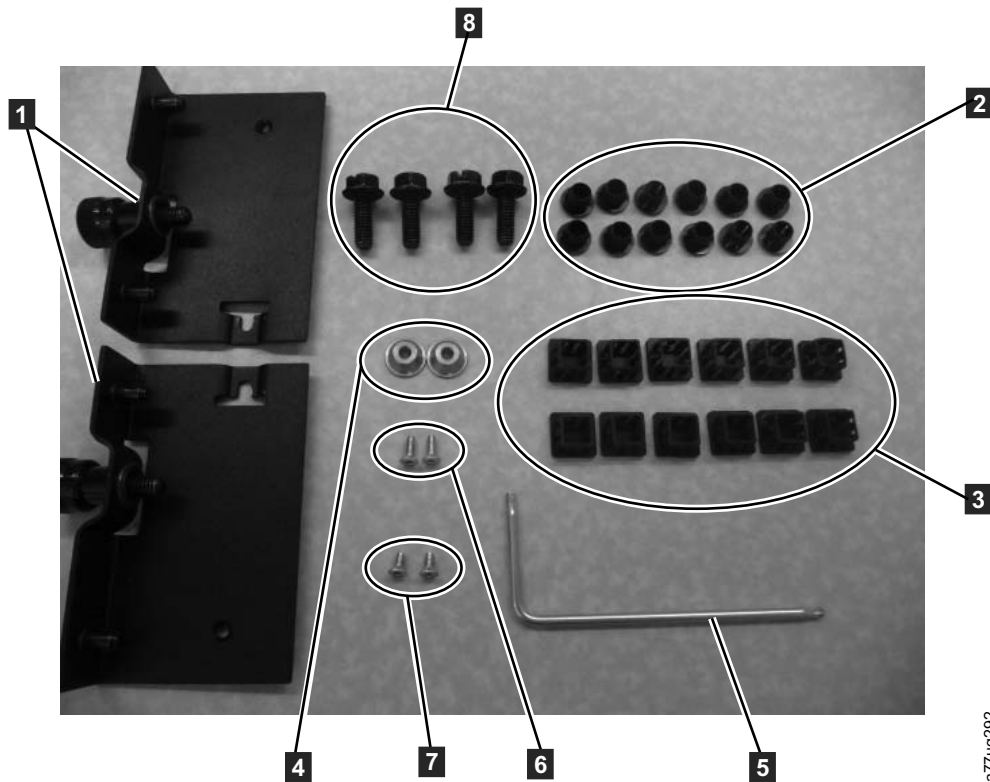

Figure 4-7. Rack Kit B mounting hardware
- 2 mounting brackets with captive thumb screws ( **1** in Figure 4-7)
- 1 Torx wrench ( **5** in Figure 4-7)